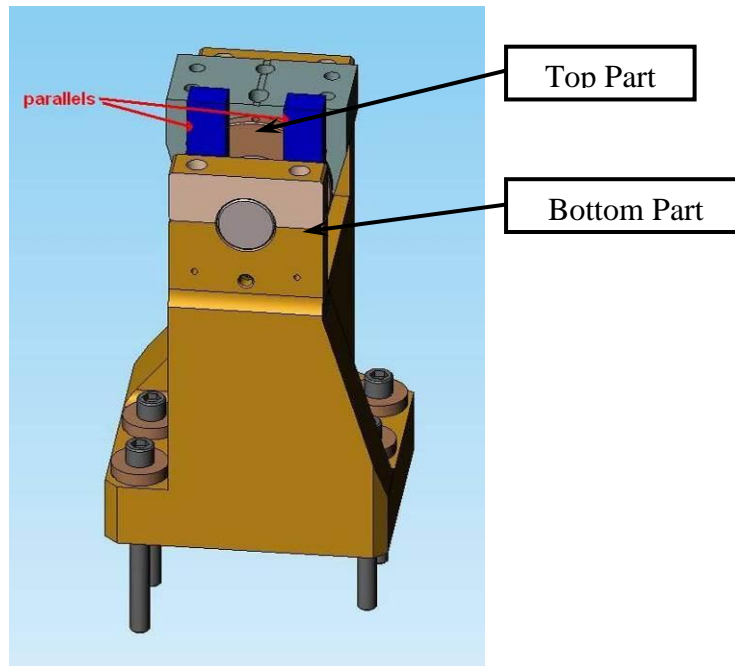

Figure 45: Using Shims to make sure the Bottom Part of the Locker is parallel to the Top Part
- Use shims as shown on Figure 45 to make sure that the bottom part of the Locker and the top part are parallel to each other.